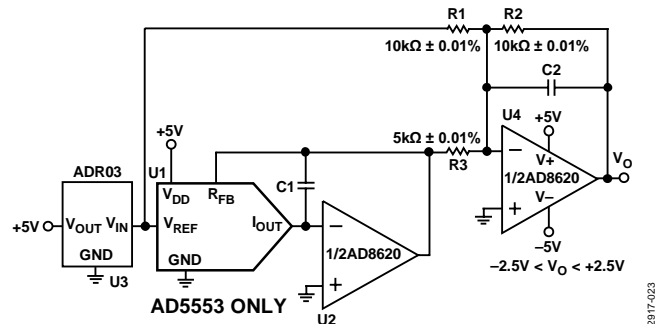

Figure 23. 4-Quadrant Multiplying Application Circuit
In some applications, it may be necessary to generate the full 4-quadrant multiplying capability or a bipolar output swing, which is easily accomplished by using an additional U4 external amplifier configured as a summing amplifier (see Figure 23). In this circuit, the second amplifier, U4, provides a gain of 2 that increases the output span magnitude to 5 V. Biasing the external amplifier with a 2.5 V offset from the reference voltage results in a full 4-quadrant multiplying circuit. The transfer equation of this circuit shows that both negative and positive output voltages are created as the input data (D) is incremented from code zero ($V_{OUT} = -2.5$ V) to midscale ($V_{OUT} = 0$ V) to full-scale ($V_{OUT} = +2.5$ V).